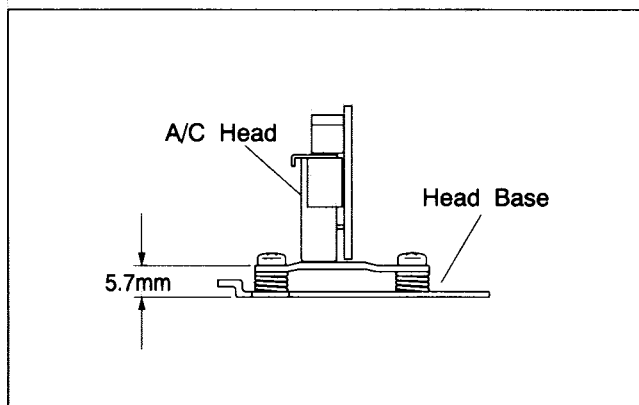

Fig.2-5-4
- (1) Temporarily set A/C head height as indicated in Fig. 2-5-4.